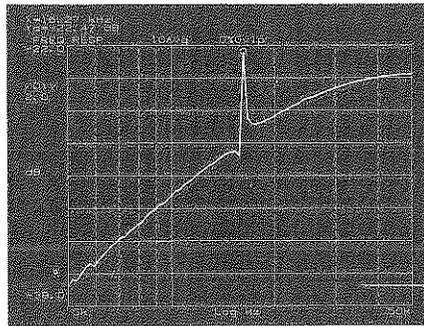

Figure 3-3
3. **Start** Press the yellow **START** key. The results for the crystal resonator are shown in Figure 3-3.